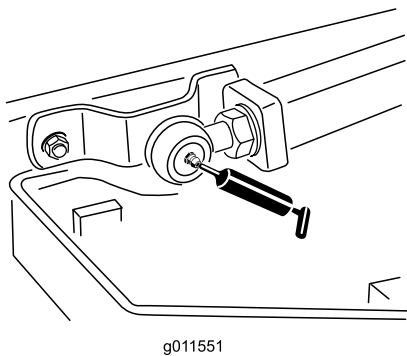

Figure 42
- 2 lift-arm ball joints (Figure 42)